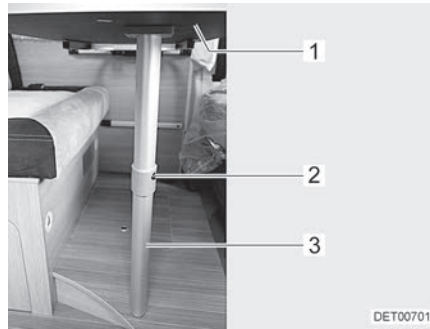

Fig. 59 Bed foundation
- Slightly raise the front of the table top (Fig. 59,1).
- Press the release knob (Fig. 59,2) and fold the lower part of the fold-out leg (Fig. 59,3) by 90°.